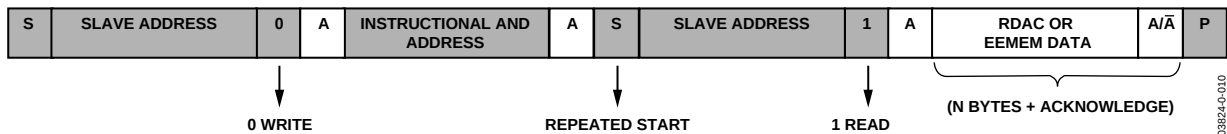
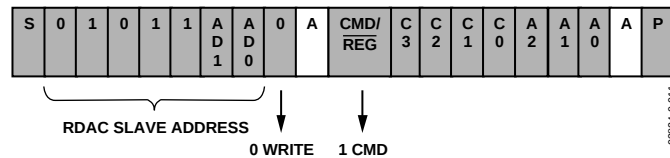
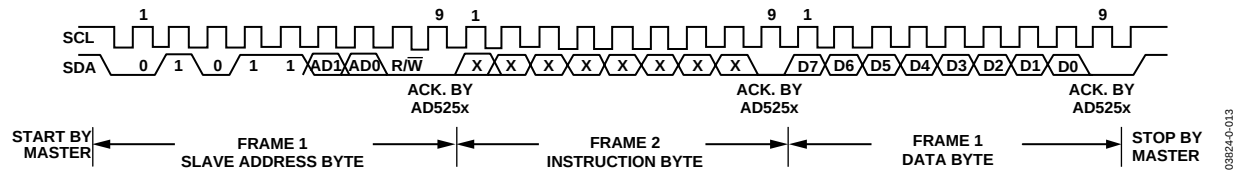
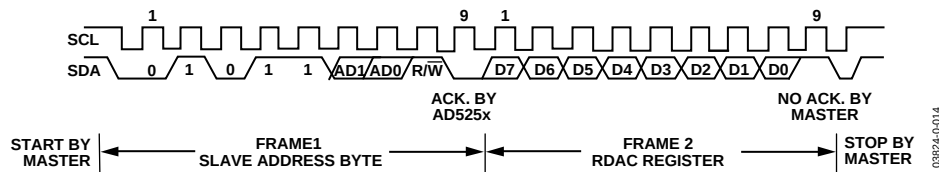

Figure 30. RDAC or EEMEM Random Read
Figure 31. RDAC Quick Command Write (Dummy Write)
Figure 33. General I²C Write Pattern
Figure 34. General I²C Read Pattern
Figure 30 illustrates a random RDAC or EEMEM read operation. This operation allows users to specify which RDAC or EEMEM register is read by issuing a dummy write command to change the RDAC address pointer and then proceeding with the RDAC read operation at the new address location.
The AD5253/AD5254 feature 12 quick commands that facilitate easy manipulation of RDAC wiper settings and provide RDAC-to-EEMEM storing and restoring functions. The command format is shown in Figure 31, and the command descriptions are shown in Table 9.
The first byte of the AD5253/AD5254 is a slave address byte (see Figure 33 and Figure 34). It has a 7-bit slave address and an R/W bit. The 5 MSB of the slave address is 01011, and the next 2 LSB is determined by the states of the AD1 and AD0 pins. AD1 and AD0 allow the user to place up to four AD5253/AD5254 devices on one bus.
AD5253/AD5254 can be controlled via an I²C-compatible serial bus and are connected to this bus as slave devices. The 2-wire I²C serial bus protocol (see Figure 33 and Figure 34) follows:
1. The master initiates a data transfer by establishing a start condition, such that SDA goes from high to low while SCL is high (see Figure 33). The following byte is the slave address byte, which consists of the 5 MSB of a slave address defined as 01011. The next two bits are AD1 and AD0, I²C device address bits. Depending on the states of their AD1 and AD0 bits, four AD5253/AD5254 devices can be addressed on the same bus. The last LSB, the R/W bit, determines whether data is read from or written to the slave device.
enables the RDAC register. The 5 LSB, A4 to A0, designates the addresses of the EEMEM and RDAC registers (see Figure 27 and Figure 28). When MSB = 1 or when the device is in CMD mode, the four bits following the MSB are C3 to C1, which correspond to 12 predefined EEMEM controls and quick commands; there are also four factory-reserved commands. The 3 LSB—A2, A1, and A0—are 4-channel RDAC addresses (see Figure 31). After acknowledging the instruction byte, the last byte in the write mode is the data byte. Data is transmitted over the serial bus in sequences of nine clock pulses (eight data bits followed by an acknowledge bit). The transitions on the SDA line must occur during the low period of SCL and remain stable during the high period of SCL (see Figure 33).
3. In current read mode, the RDAC0 data byte immediately follows the acknowledgment of the slave address byte. After an acknowledgement, RDAC1 follows, then RDAC2, and so on. (There is a slight difference in write mode, where the last eight data bits representing RDAC3 data are followed by a no acknowledge bit.) Similarly, the transitions on the SDA line must occur during the low period of SCL and remain stable during the high period of SCL (see Figure 34). Another reading method, random read method, is shown in Figure 30.
4. When all data bits have been read or written, a stop condition is established by the master. A stop condition is defined as a low-to-high transition on the SDA line that occurs while SCL is high. In write mode, the master pulls the SDA line high during the 10th clock pulse to establish a stop condition (see Figure 33). In read mode, the master issues a no acknowledge for the ninth clock pulse, that is, the SDA line remains high. The master brings the SDA line low before the 10th clock pulse and then brings the SDA line high to establish a stop condition (see Figure 34).